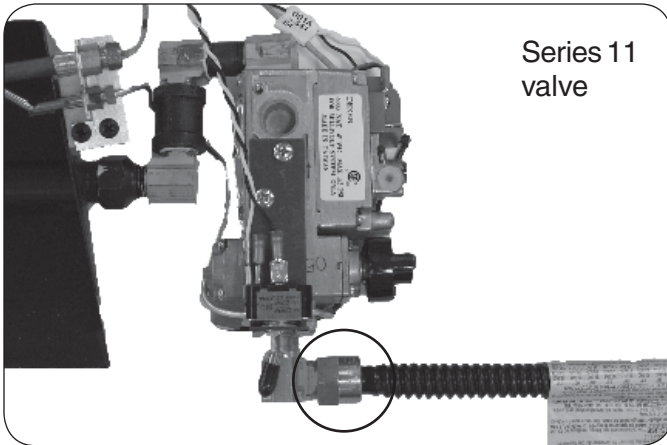

Fig. 14-1
7. Connect the unconnected end of the flex connector to the control valve input or regulator if connected externally to the valve. (Fig. 14-1, 2, 3, 4). **DO NOT kink tubing.** Tighten both ends of the flex connector securely.